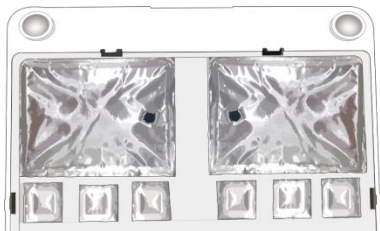

Figure 4-2 : Pierce the seal on the cartridge
- Pierce the seal of well No.1 and No.2 to make a hole with the diameter less than 1 cm using a sterile tip (see Figure 4-2):